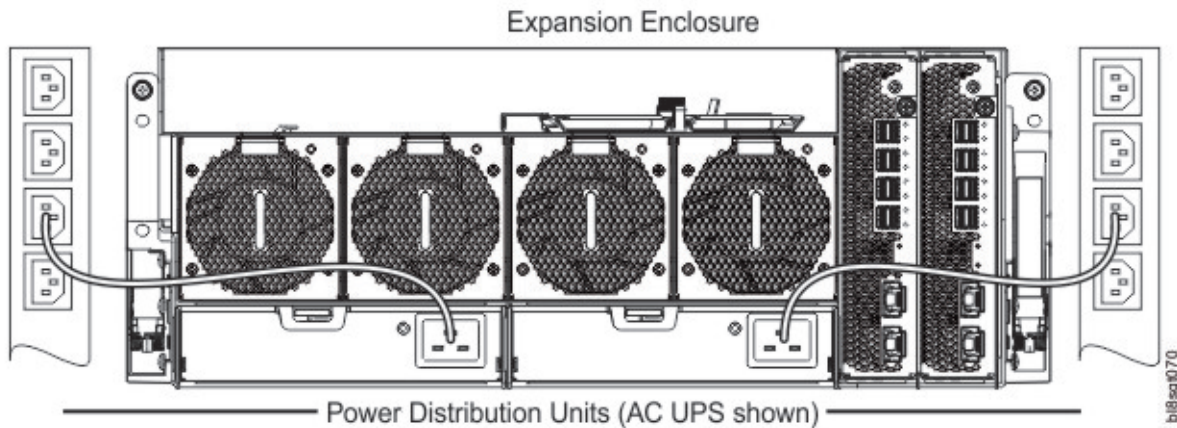

Figure 59. Typical AC power cord connection from PDU to PSU
- Figure 59 on page 52 shows power connection from a single-core PSU to a PDU using C19 connectors.
1. Power on the system by connecting the power cables from the PSU to the PDU. See Figure 59 on page 52.